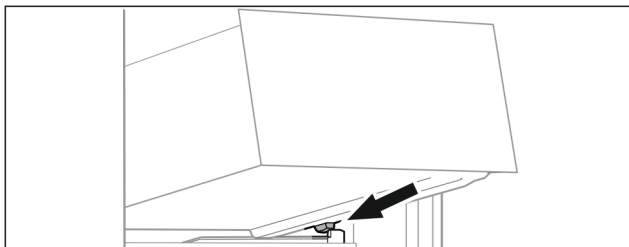

Fig. 132
- ▶ Place drawer at an angle behind the stoppers on the moulded rib. (see Fig. 132)